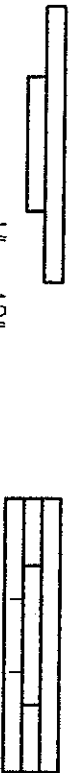

Fig. 3
10. Raise the Bottom 1/4" from the bottom of the bird house, as shown in fig. 3.